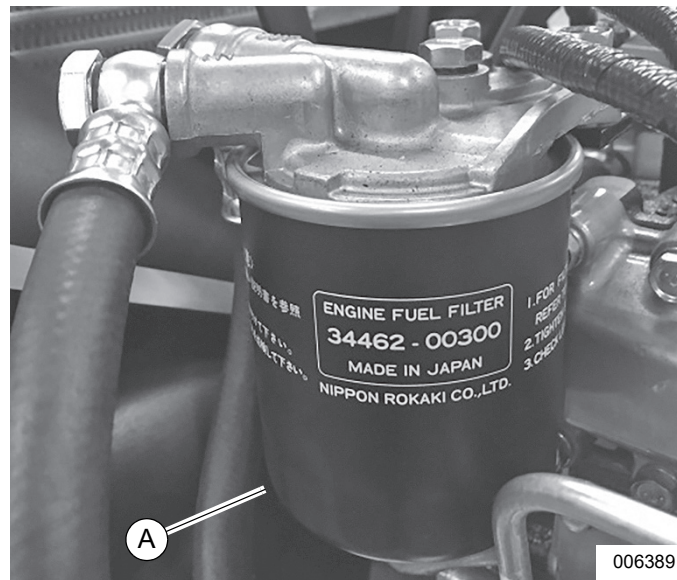

Figure 5-27. Drain Fuel Filter (2.5L Engine)
1. See Figure 5-27. Place a shop rag beneath fuel filter (A) to catch water or fuel drips.